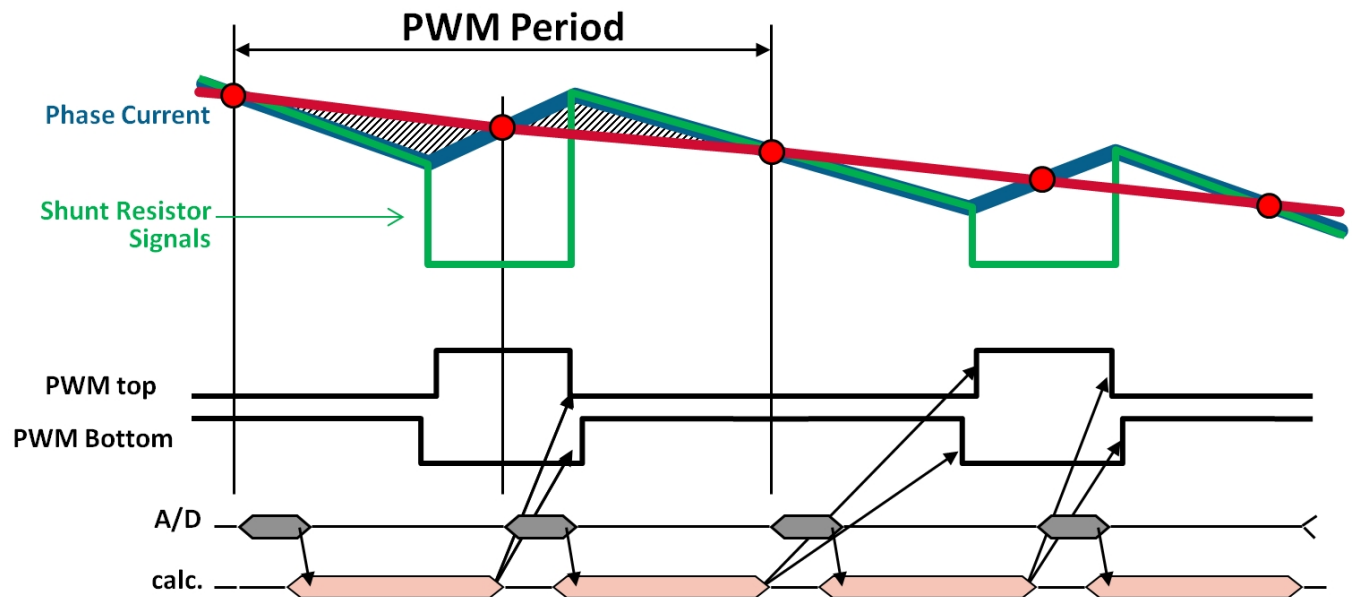

Figure 1. Synchronization principle
- Secondly, an average value can be obtained. If the measurement is made in the middle of the pulse length of a pulse width modulation (PWM), an average value of the current is obtained without any additional calculation. See Figure 1. This principle works only on the condition that the motor electrical time constant must be many times higher than the switching period. Therefore, the motor current waveform will be almost linear during the pulse of the PWM.